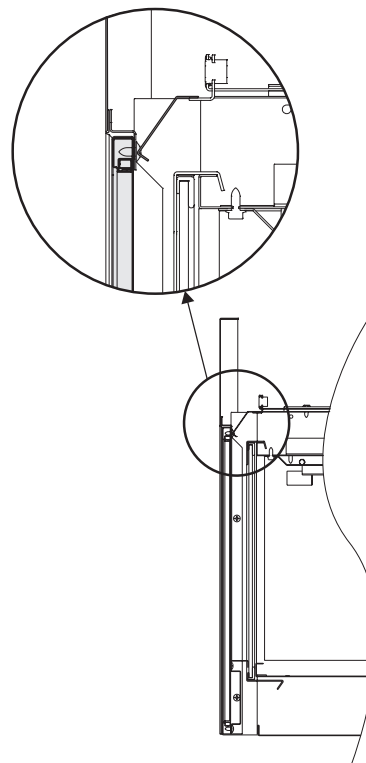

Figure 23
3. Once the lower return flange on the back of the barrier is placed against the glass door frame, gently lift the barrier screen up about 3/8 of an inch, push inward on the barrier, then release and lock the lower return flange between the door glass and lower door frame. **See Figure 23.**